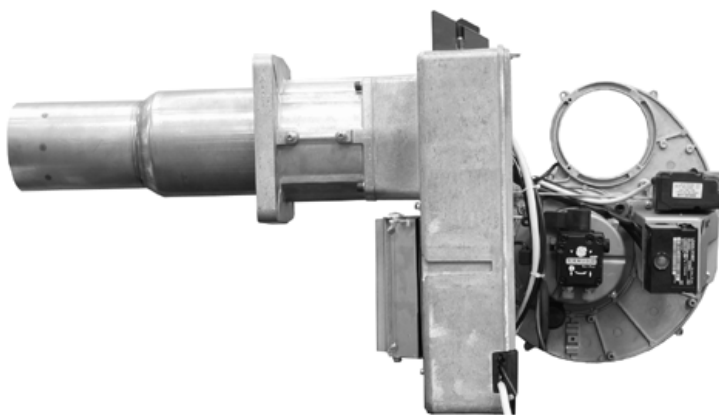

Fig. 58
- Hook the burner components plate as shown in Fig. 58.